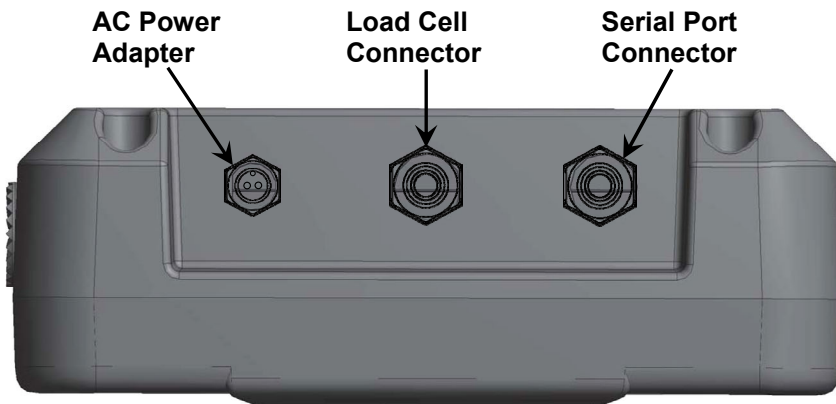

Figure No. 2
To power the Model 185 or 185B using the 12 VDC wall plug-in AC power adapter, connect the plug from the adapter into the power jack on the bottom panel of the indicator and then plug the power adapter into the proper electrical outlet. Refer to Figure No. 2. On models requiring 230 VAC, it is the customer's responsibility to obtain the correct power adapter plug.
The following instructions describe the load cell connection through a standard gland connector. Refer to Figure No. 2 for illustration of connector layout.
1. Remove the four (4) Phillips screws securing the back panel to main housing, and then loosen the center gland connector for the load cell cable. Refer to Figure No. 2 for illustration of connector layout.
1. Remove the four (4) Phillips screws securing the back panel to main housing, and then loosen the right gland connector for the serial cable. Refer to Figure No. 2 for illustration of connector layout.